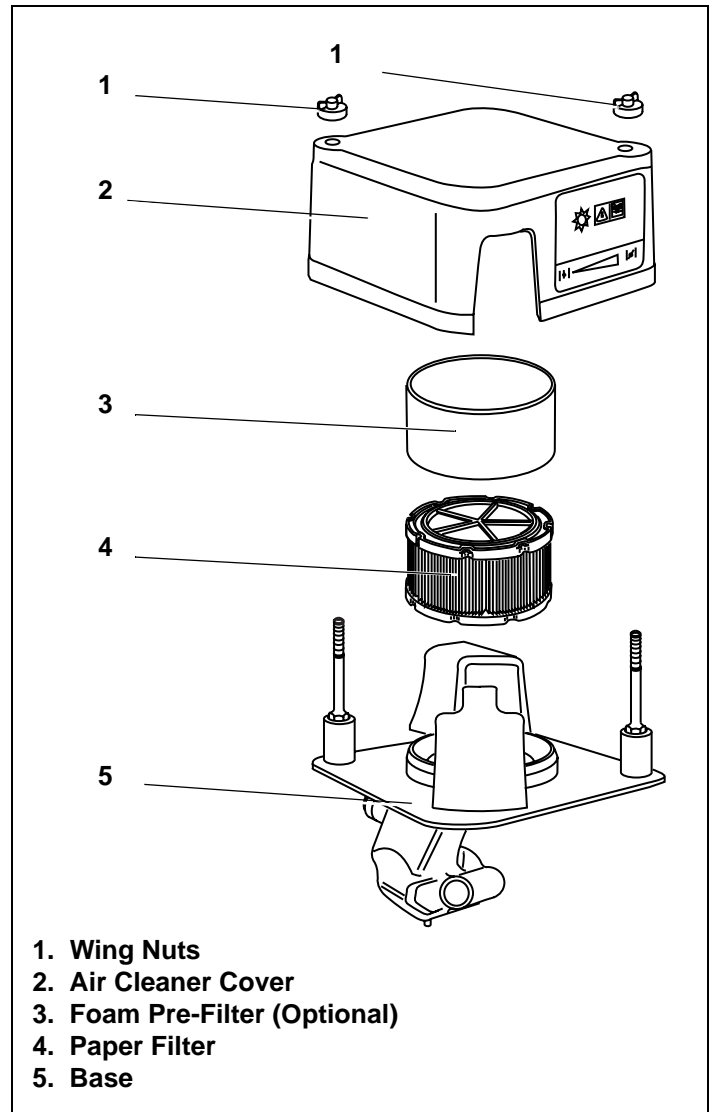

Figure 45. Type “E” Climate Guard Air Cleaner Assembly
1. Remove wing nuts from air cleaner cover. See Figure 45.